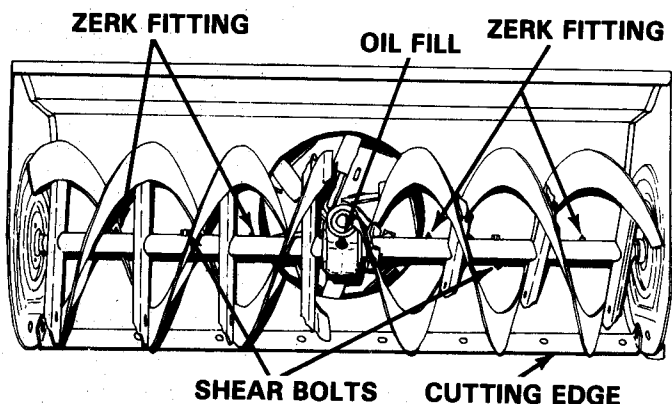

FIGURE 6
The auger and gearcase are protected by a shearbolt designed to shear if a solid object enters the auger. Do not install substitutions. See Figure 6.
6. The cutting edge shown in Figure 6, is adjustable. If excessive wear is noticed after continued use,
Occasionally a small object may enter the collector and jam the rakes. When this occurs, the shear bolts securing the rakes to the shaft will shear and allow the rake to run freely on the shaft preventing damage to the gear drive. See Figure 6. When this happens, turn off the tractor engine, disengage the PTO drive and remove the ignition key. Remove the broken shear bolt, turn rake on shaft to be sure rake is not binding on shaft. Install a new ARIENS shear bolt and lubricate with ARIENS Moly Lithium grease. Use of any other type of shear bolt may result in severe damage to the Sno-Thro. USE ONLY ARIENS SHEAR BOLTS FOR REPLACEMENT.
Check gear case oil level periodically. Oil level must be up to oil fill hole. Change oil every 25 hours or once each season which ever comes first. Fill with Ariens Special L-2 Gear Lubricant. Approximately 5 oz. See Figure 6.
Grease rake shaft periodically or each time a shear bolt is replaced. At the end of the season, remove shear bolts, grease rake shaft, turn rakes or shaft several times and replace shear bolts. Use Ariens Moly Lithium grease. See Figure 6.